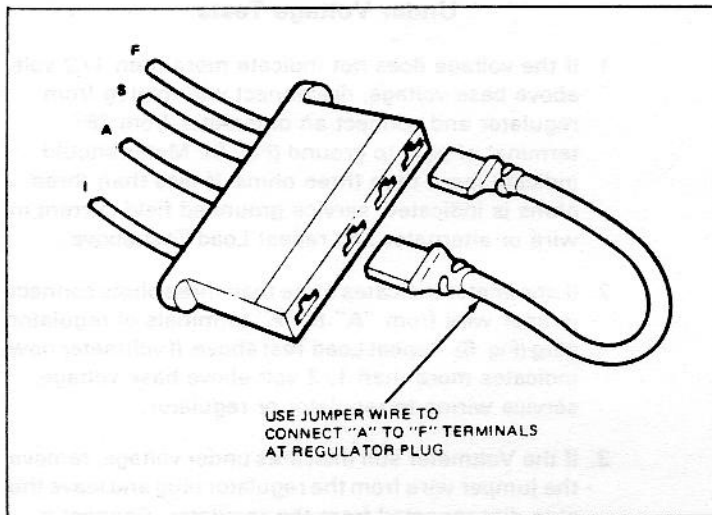

Fig. 6 - Regulator Plug Jumper Wire Connections
2. If ohmmeter indicates more than three ohms connect jumper wire from "A" to "F" terminals of regulator plug (Fig. 6). Repeat Load Test above. If voltmeter now indicates more than 1/2 volt above base voltage, service wiring to regulator or regulator.
1. Disconnect the regulator wiring plug and install a jumper wire between the "A" and "F" terminals (Fig. 6).